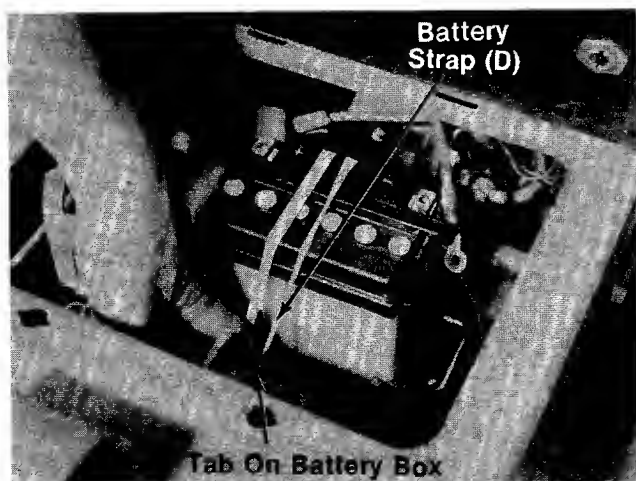

FIGURE 15.
7. Secure the battery to the battery box by stretching the battery strap (D) across the battery. Loop each end around the tab on the sides of the battery box. See figure 15.